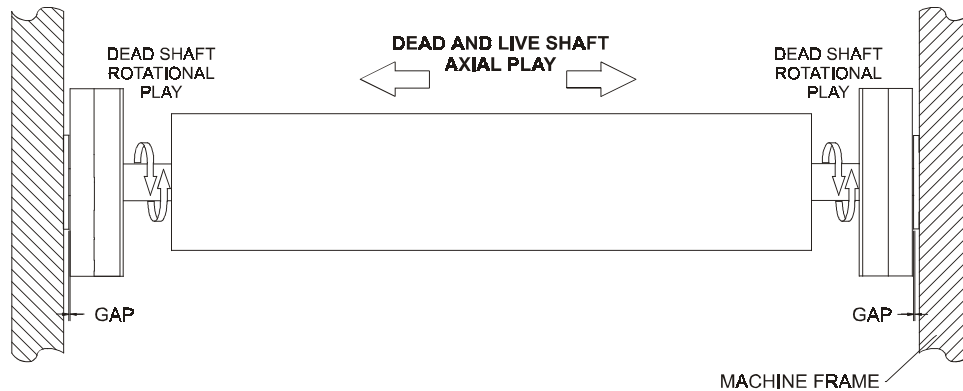

Figure 12 - AXIAL AND ROTATIONAL PLAY
For any tension transducer to operate properly, there must be some axial (along the idler shaft) movement capability to allow for shaft deflection and length variations caused by temperature fluctuations. The Model THN transducer is designed with approximately 0.040 inches (1.0mm) of axial movement per transducer with a maximum of 0.080" (1.5mm) per pair. To preserve this capability, follow the instructions below. A normal installation will have about 0.040" (1.0 mm) of axial movement. The D version coupling should also have a small amount of rotational free play. See Figure 12.
E. CHECK THE GAP FOR CORRECT ALIGNMENT (see Figure 12)